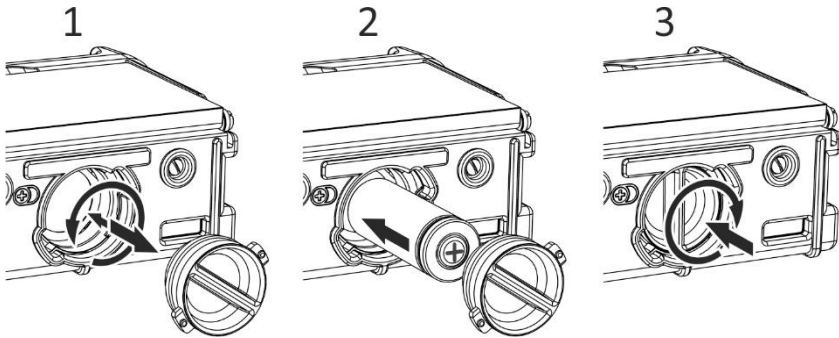

Figure 3.1 – Battery replacement
3.1.3.4.1 If the dosimeter's battery is out of order or its capacity is significantly low it should be replaced. Do the following (Figure 3.1):